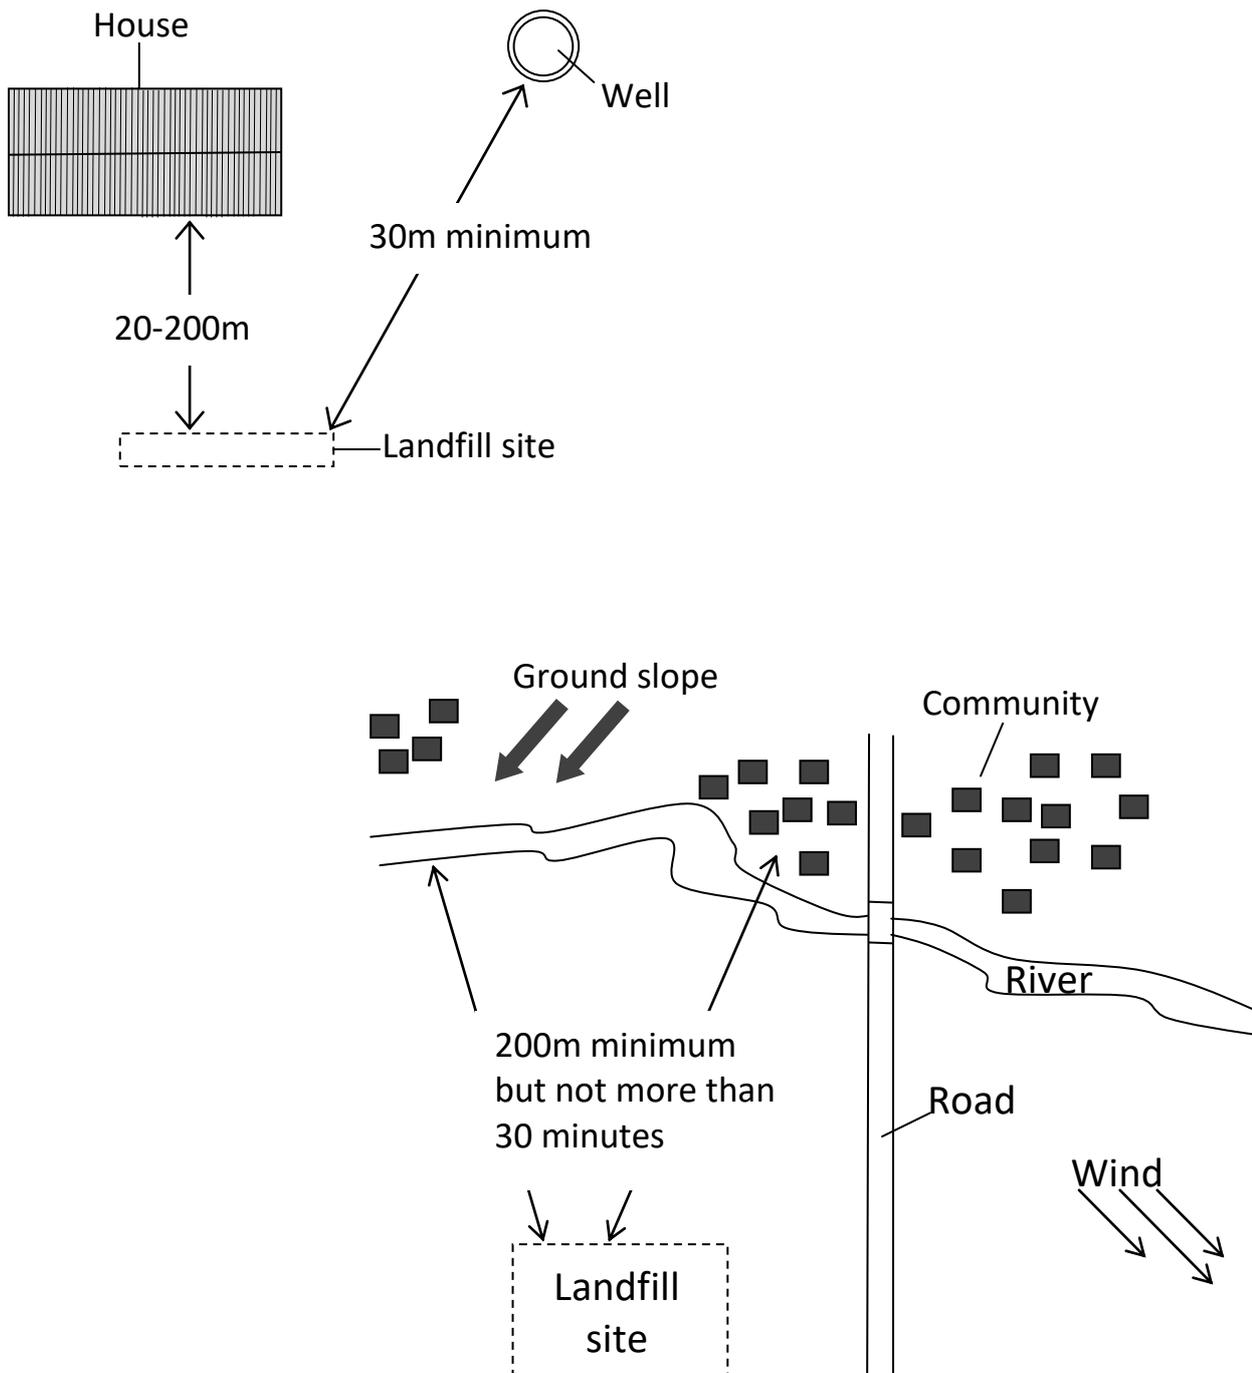

Figure 12-1: Landfill locations for household/compound (top left) and community (bottom right).
- 2. Distance:** A landfill must be far enough from wells and streams to protect water supplies from contamination, far enough from dwellings to prevent causing a nuisance, and close enough to the source of the waste to avoid excessive transport. If you are making a landfill site for one house or compound, it should be at least 30 metres, preferably downhill, from wells and streams. A community landfill should be at least 200 metres, preferably downhill, from wells and streams and at least 200 metres from the nearest dwelling (see Figure 12-1).
When a suitable site has been located, draw a map like Figure 12-1 showing the site in relation to dwellings, water wells, streams, roads, and so on, and indicating ground slope and prevailing wind direction.